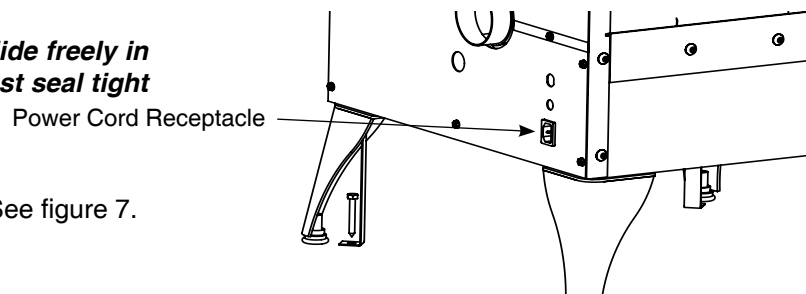

Figure 7: Power Cord Receptacle
1. Plug power cord into the back of stove. See figure 7.